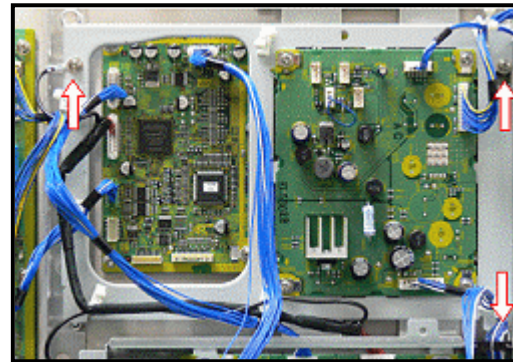

Figure 31. PB Board Metal Frame
1. Install the PB-Board metal frame and secure it with three screws as indicated in Figure 31.